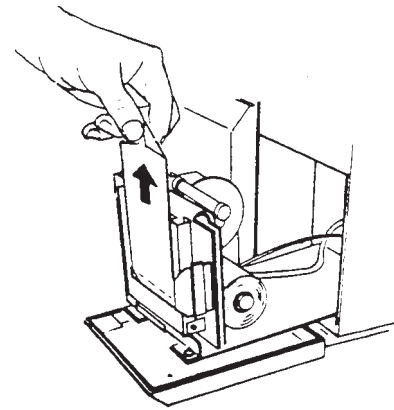

**Figure 5-17**
6. Grasp the pointed end of the paper, and in an upward motion to protect the print head, pull out 10 to 12" (254 to 304 mm) of paper (Figure 5-17).